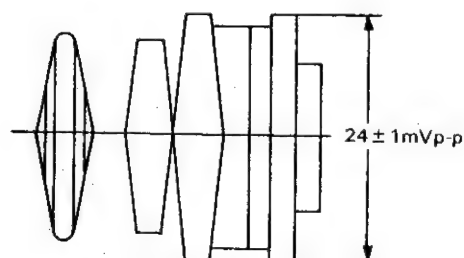

Figure 2-8.
- c) Adjust R518 (recording chroma control) to that the red level be $24 \pm 1\text{mVp-p}$ as shown in Fig.2-8.